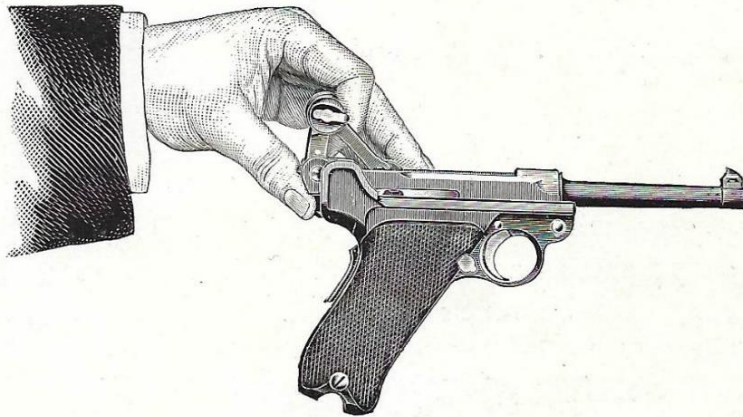

Fig. 4.
- Fig. 4. shows the result obtained with expansive bullet from the Smith & Wesson revolver;
Single loading, without using a cartridge holder, is performed, grasping the pistol with the right hand in the manner described before. The right hand grasps the pistol, the left draws the toggle joint completely to the rear, the first finger holds the left cheek of the toggle joint tightly, the thumb leans backward against the sling swivel, the middle finger against the edge of the trigger plate (see fig. 4), thereby keeping the breech